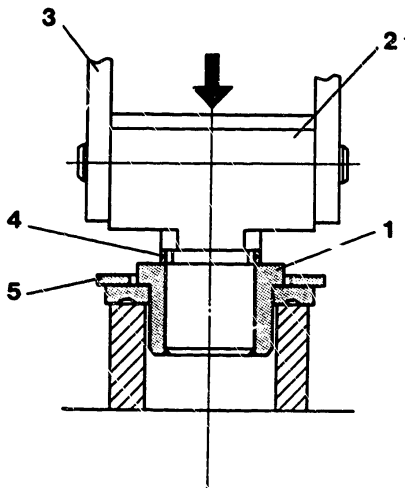

Fig. 56 Press fitting the shifter
2. After placing the snap-ring on the bush, press-fit the shifter to the bush. (Fig. 56)